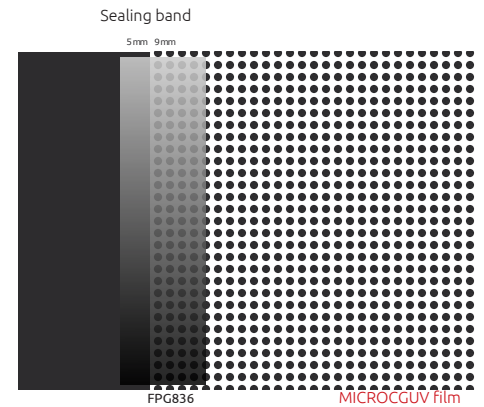

Figure07
- › Apply the strip by overlapping 5 mm (0.2 in.) over the window and 9 mm (0.35 in.) over the MICROCGUV film. (FIG. 07)